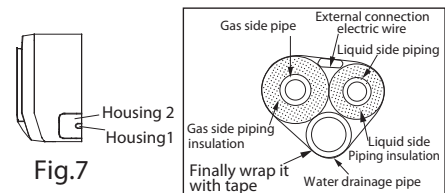

Fig.7
1. When routing the piping and/or wires out through the left or right sides, some trimming of the housing is necessary (see Fig. 7).